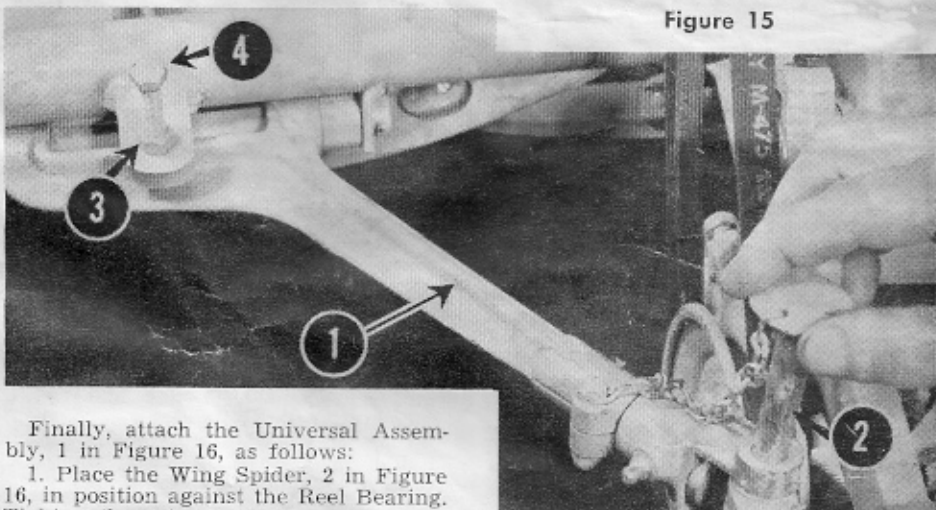

Figure 15
Next, attach the Leader, 1 in Figure 15, as follows:
1. Remove the top Tie Rod Bolt, 5 in Figure 12, replacing it with the Leader Pivot and Stud, as shown in Figure 15.
2. Attach the Leader Swivel to the Leader Pivot by using the Leader Swivel Pin, 2 in Figure 15. On new equipment, the Leader Swivel Pin may not fit easily because of paint on the Pin and inside the holes into which it fits. Use fine emery paper to remove the paint.
CUTTING HEIGHT. To adjust the cutting height, loosen the lock nut, 3 in Figure 15, and turn the Height Adjusting Screw, 4 in Figure 15, clockwise (to increase cutting height) or counter-clockwise (to lower cutting height). Tighten the lock nut when proper adjustment is reached.